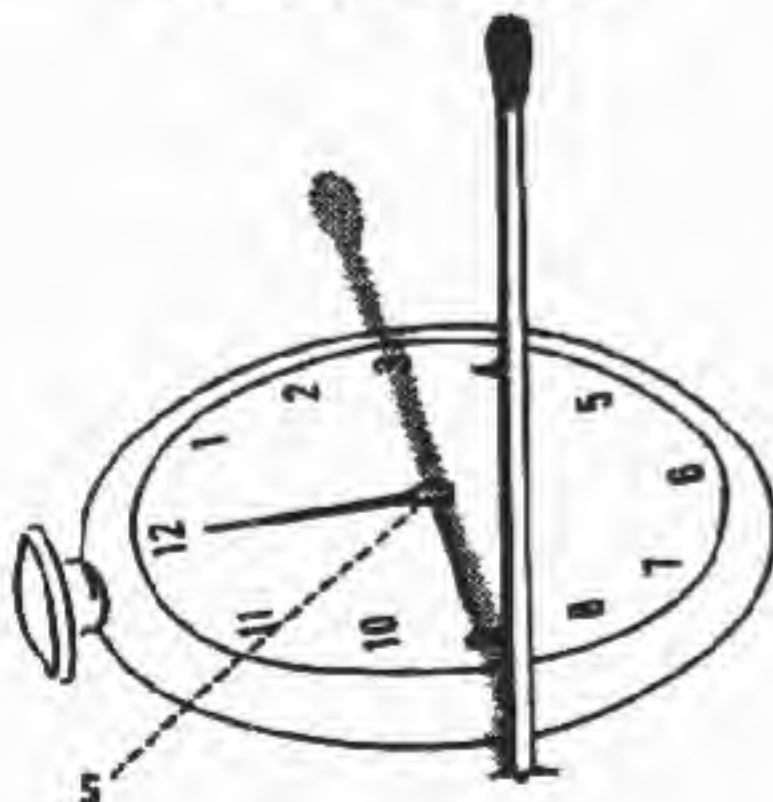

Figure 3
3. **WATCH METHOD (FIGURE 3)** - The regular Watch Method, although currently advocated by several Army field manuals and such well known outdoor guides as the Boy Scout Handbook, can be very seriously in error and is therefore generally unreliable and even potentially dangerous.
4. **OWENDOFF WATCH METHOD** - A watch used in conjunction with shadow-clock time (par. 2b) serves to "store up" the direction obtained by the Shadow-Tip Method (par. 1c). Having made a shadow-clock, merely set your watch to the time it indicates. Now proceed as before by pointing the hour hand toward the sun (Figure 3). Your approximate north-south line will lie halfway between the hour hand and 12 o'clock on the dial. Observe the